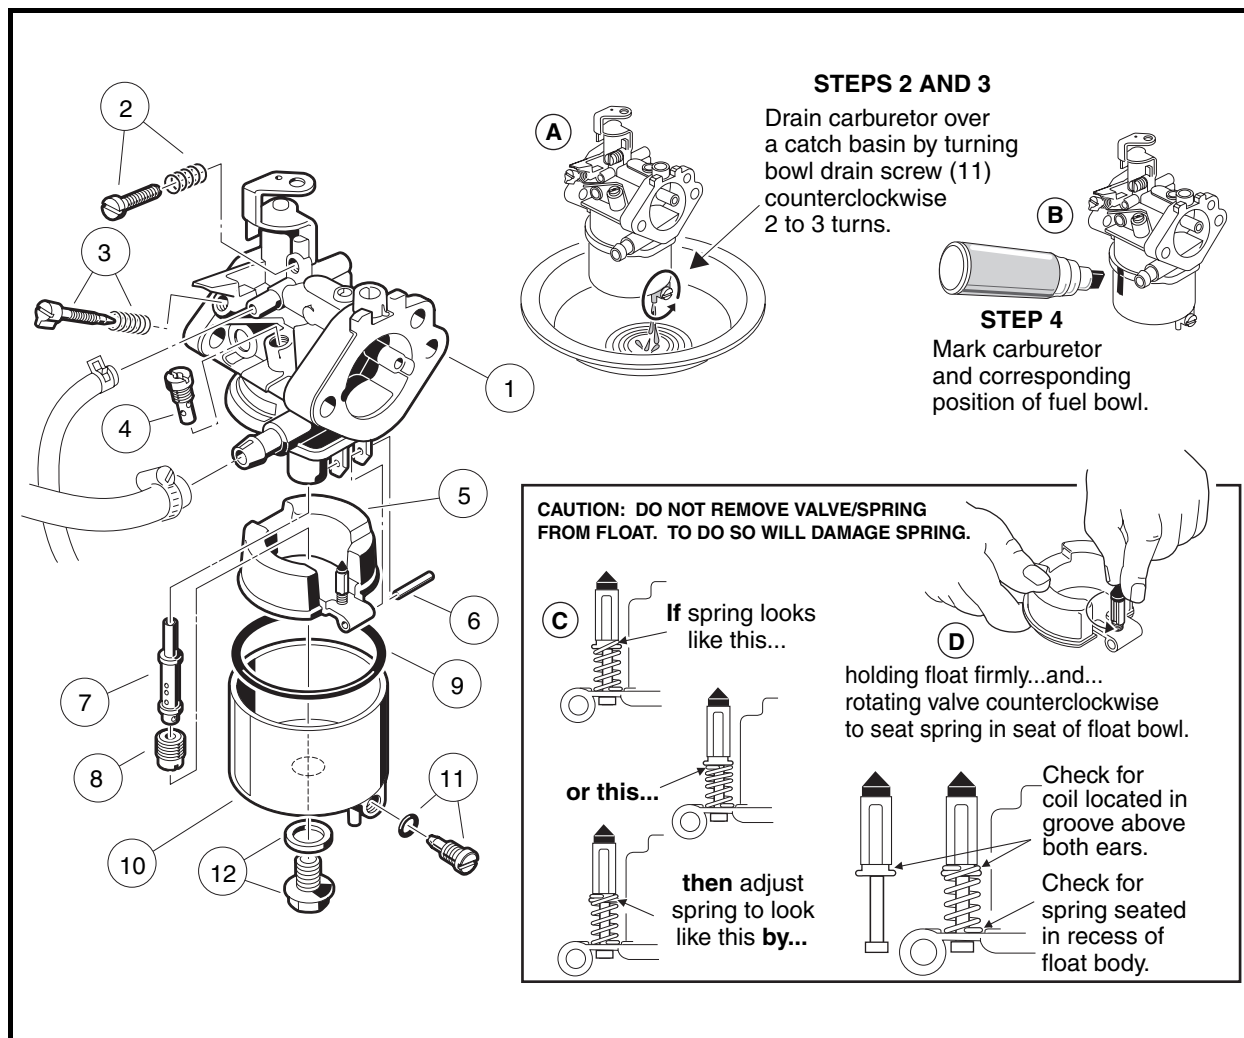

Figure 14-2 Changing the Main Jet
2. Position the carburetor with the drain screw (11) over a catch basin (**Figure 14-2, Page 14-4**).
3. Turn the carburetor bowl drain screw counterclockwise two or three turns and drain all the fuel from the bowl into the catch basin (**Figure 14-2, Page 14-4**). Tighten the drain screw to 10 in-lb (1.1 N·m). Return fuel to the fuel tank or dispose of properly.
4. Mark the body of the carburetor and the carburetor fuel bowl with an indelible ink marker so that, after removal, the bowl can be installed again in the same position (**Figure 14-2, Page 14-4**).
5. Remove the carburetor fuel bowl retaining screw and washer (12), then remove the fuel bowl (10) and clean it with a nonflammable solvent (**Figure 14-2, Page 14-4**). **See following NOTE.**
NOTE: Make sure the fuel bowl gasket (9) remains properly seated in the carburetor body when the fuel bowl is removed (**Figure 14-2, Page 14-4**).
6. Remove the main jet (8) from the carburetor body and discard it (**Figure 14-2, Page 14-4**).
NOTE: Make sure the fuel nozzle (7) does not fall out of the carburetor body after removal of the main jet. This is best accomplished by positioning the carburetor upside down during main jet removal (**Figure 14-2, Page 14-4**).
NOTE: Inspect the main jet nozzle (7), and pilot jet (4) to ensure they are free from contamination. Replace any part that is clogged with contamination. Replace the float if it is damaged, or if the float valve is damaged or worn. Examine the float valve/spring assembly to make sure the spring is installed correctly (**Figure 14-2, Page 14-4**).